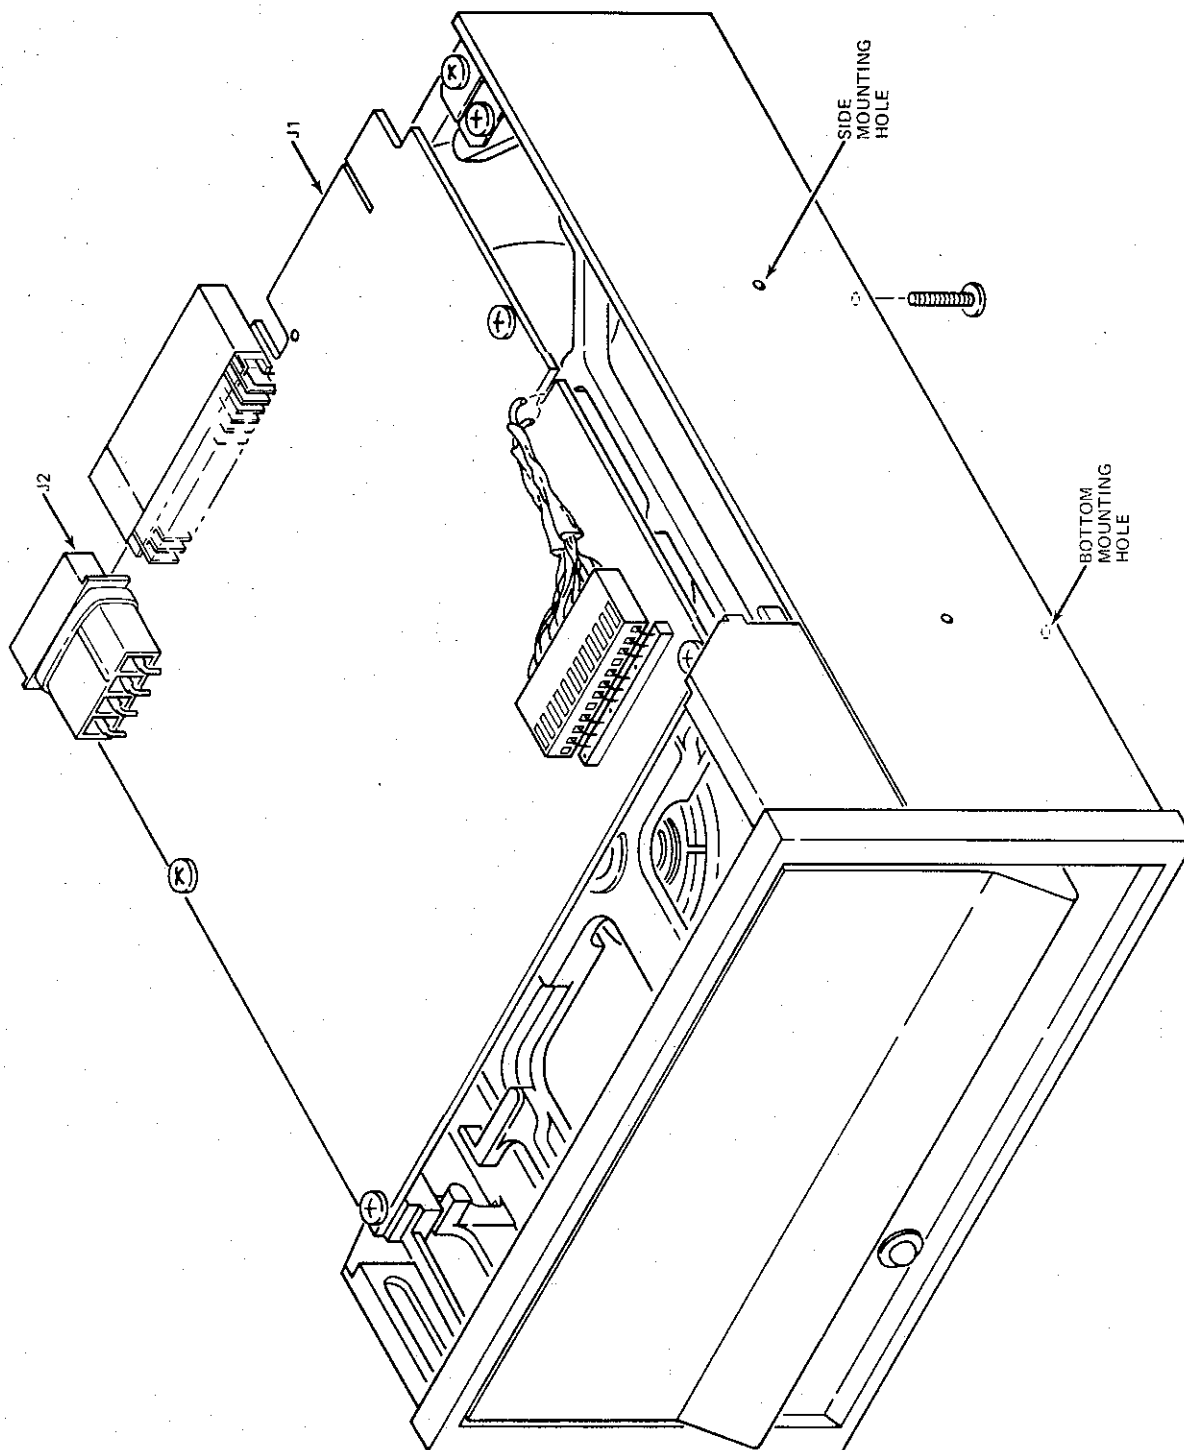

Figure 2-1. Model FDD200-5 Disk Drive, Isometric View
- A. Horizontally, with PWB facing up as shown in Figure 2-1.